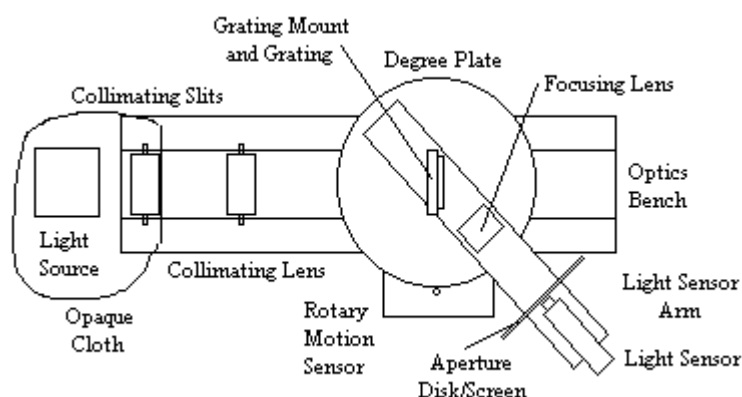

Figure 1: Schematic of Final Setup.
The spectrophotometer allows you to view and measure the spectrum produced by a light source (See Figure 1). The collimating slits and collimating lens produce a narrow beam of parallel light rays. The grating disperses the beam of light into a spectrum with different colors at different angles but with all the light of a given color in a parallel beam. The focusing lens focuses these parallel beams of color into spectral lines. The narrow slit on the aperture disk allows light of a single color to enter the high sensitivity light sensor. The high sensitivity light sensor measures the intensity of light and the rotary motion sensor measures the angle at which the light is diffracted by the grating.
Please refer to the Figure 1 above as needed when setting up this experiment:
- Using the black cloth and binder clips provided, you may want to mask off the light source so that the only light that reaches the spectrophotometer from the light source comes through the collimating slit. (The first light source you will be using is the hydrogen Balmer source.) The black cloth should be clipped to the collimating slits (see Figure 1).